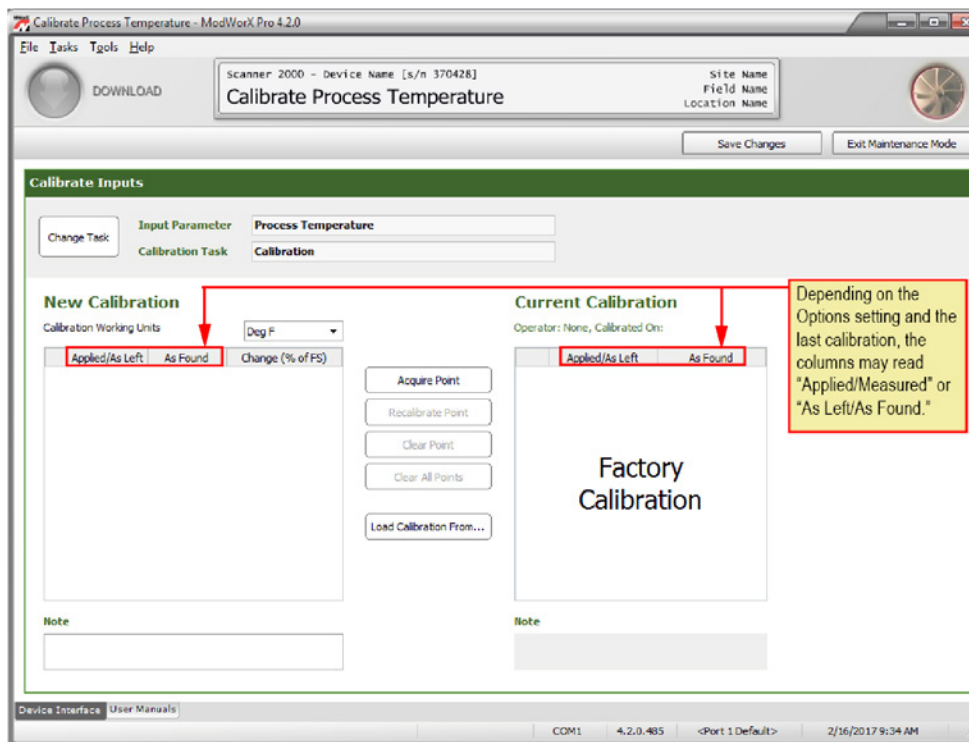

Figure 6.15
1. Observe the calibration settings at the bottom of the screen (Figure 6.15). To calibrate the sensor, click on the blue **Calibrate** hyperlink in the Sensor Calibration section and follow the screen prompts.
2. Observe the verification settings at the bottom of the screen (Figure 6.15). To verify the sensor's calibration, click on the blue **Verify** hyperlink and follow the screen prompts.